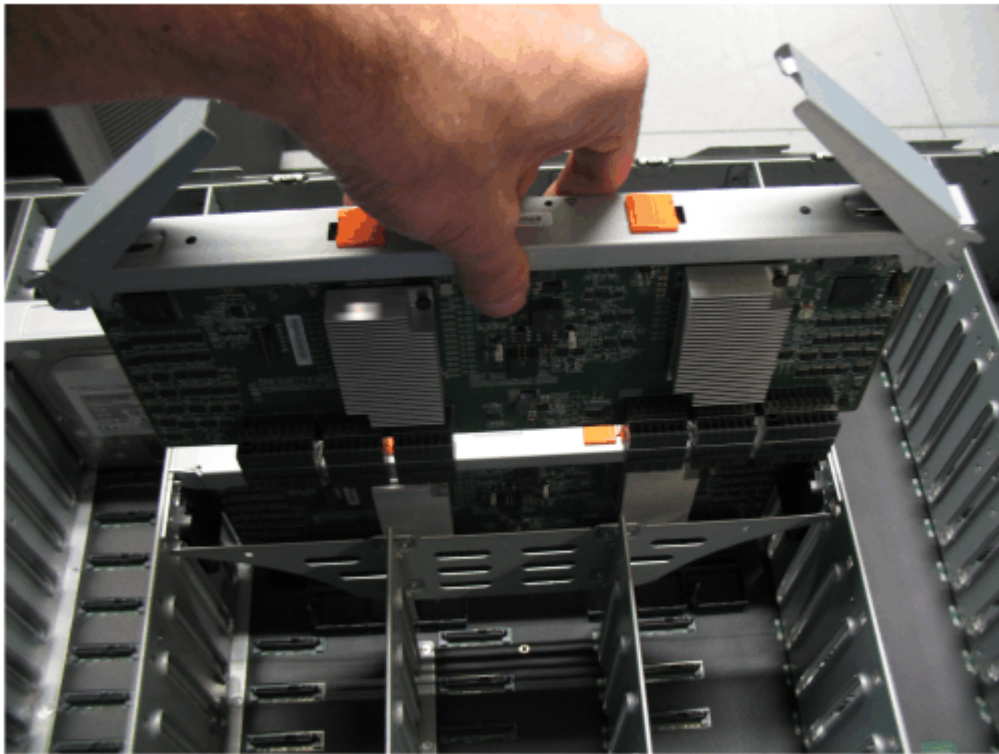

Figure 89. Replace the secondary expander module
4. Align the edges of the secondary expander module carefully in the guide slot in the enclosure, as shown in Figure 89 on page 72.